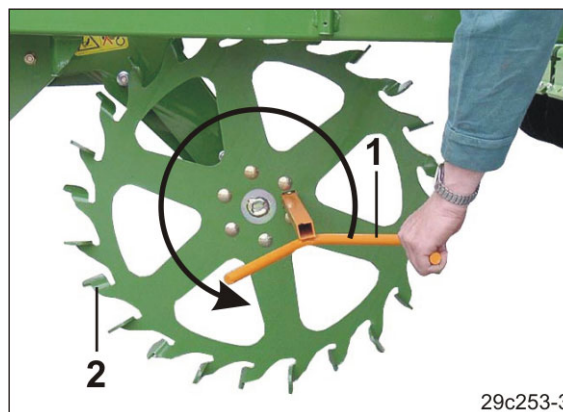

Fig. 196
- 6.1 Turn the star wheel (Fig. 196) anti-clockwise with the calibration crank. (Only machines with star wheel drive)